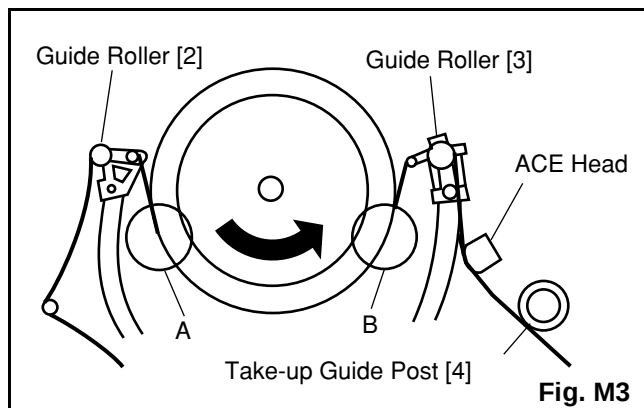

Fig. M3
1. Playback a blank cassette tape and check to see that the tape runs without creasing at Guide Rollers [2] and [3], and at points A and B on the lead surface. (Refer to Fig. M3 and M4.)
2. If creasing is apparent, align the height of the guide rollers by turning the top of Guide Rollers [2] and [3] with a Guide Roller Adj. Screwdriver. (Refer to Fig. M3 and M5.)
3. Check to see that the tape runs without creasing at Take-up Guide Post [4] or without snaking between Guide Roller [3] and AC Head. (Fig. M3 and M5)
2. Playback the Gray Scale on the Alignment Tape (FL6NS8). Set the Tracking Control Circuit to the center position by pressing "VCR" button and "▲CH" button on the remote control unit then pressing "PLAY" button on the unit. Adjust the height of Guide Rollers [2] and [3] (Fig. M3, Page 2-3-3) watching the oscilloscope display so that the envelope becomes as flat as possible. To do this adjustment, turn the top of the Guide Roller with the Guide Roller Adj. Screwdriver.
3. If the envelope is as shown in Fig. M7, adjust the height of Guide Roller [2] (Refer to Fig. M3) so that the waveform looks like the one shown in Fig. M9.
4. If the envelope is as shown in Fig. M8, adjust the height of Guide Roller [3] (Refer to Fig. M3) so that the waveform looks like the one shown in Fig. M9.
5. When Guide Rollers [2] and [3] (Refer to Fig. M3) are aligned properly, there is no envelope drop either at the beginning or end of track as shown in Fig. M9.
Note: Upon completion of the adjustment of Guide Rollers [2] and [3] (Refer to Fig. M3), check the X Value by pushing the "▲CH" or "▼CH" buttons alternately, to check the symmetry of the envelope. Check the number of pushes to ensure center position. The number of pushes "▲CH" button to achieve 1/2 level of envelope should match the number of pushes "▼CH" button from center. If required, redo the "X Value Alignment."